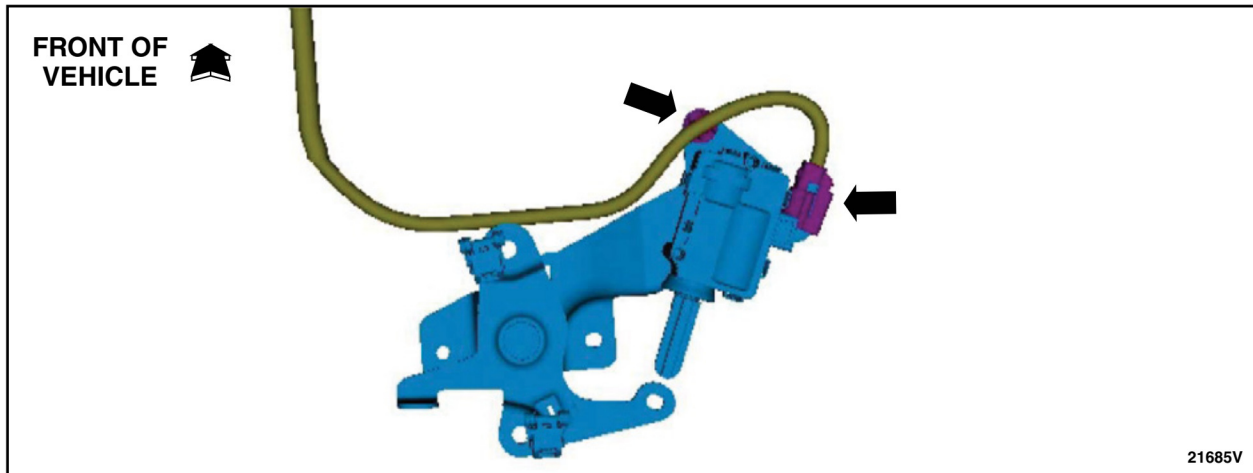

FIGURE 26
30. Reconnect the electrical connector and the push pin retainer. See Figure 26.